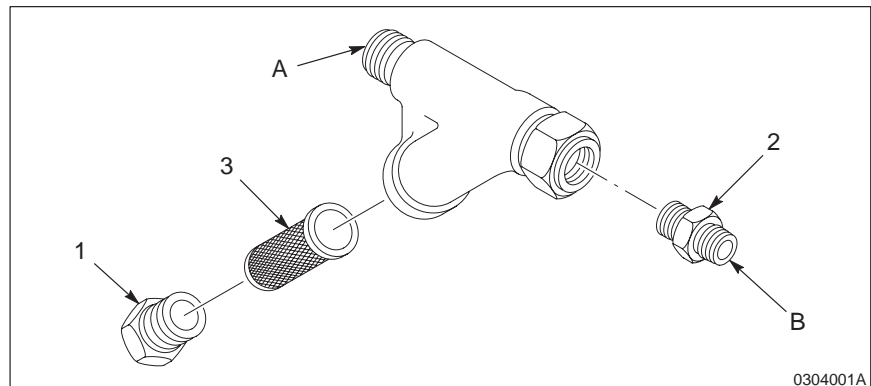

Fig. 1 In-line filter assembly
See Figure 1. The in-line filter assembly is designed for use with atomizing air spray guns. One wire mesh screen (3) is shipped with each filter assembly. Other sized wire mesh screens are available to interchange with the wire mesh screen shipped with the filter assembly.
See Figure 1. Use the following chart to order replacement parts for the in-line filter assembly.